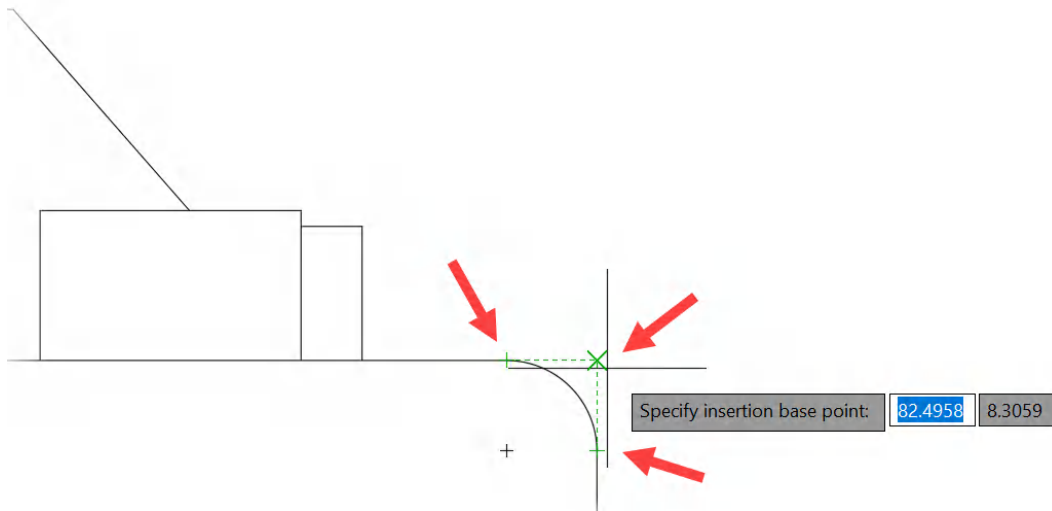

Figure 12.12: Using Object Snap Tracking to set the insertion point
13. Hover over the two **Endpoint** object snaps shown in *Figure 12.12*, and *do not* click on them. Hovering over the object snaps uses them as tracking points and not object snaps, allowing you to locate the **Object Tracking** point you need.
14. As you move away slightly with the cursor, two polar tracking lines intersect, and an **Intersection** object snap displays, as shown in *Figure 12.12*.
15. Click when you see this intersection (shown as an **X** in *Figure 12.12*) to set it as the block's insertion point.